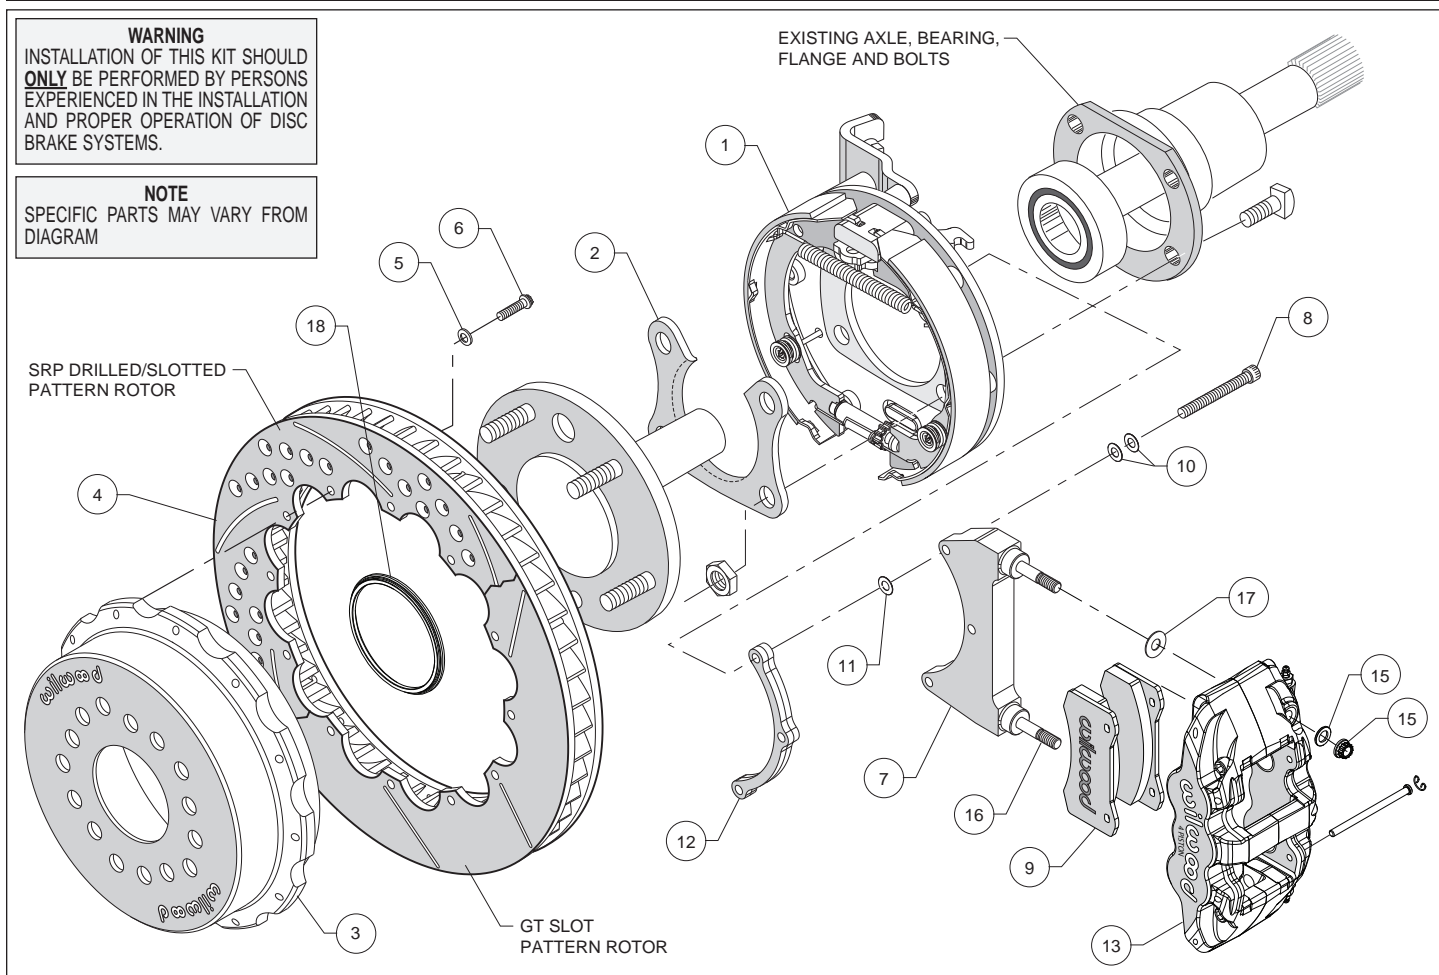

Figure 1. Typical Installation Configuration
- Orient the bracket assembly (1) as shown in Figure 1 and slide it onto the axle. Insert the axle and bracket into the axle housing. Ensure that the bracket assembly backing plate fits flush against the axle housing flange.
- Install the bearing retainer (2) with the opening pointing upward and the lip facing inward (toward the bearing), as shown in Figures 1 and 4. Secure retainer and bracket assembly to the axle housing flange using the Original Equipment Manufacturer (OEM) bolts and nuts, Figure 1. Apply red *Loctite*® 271 to the OEM bolt threads and torque to OEM specifications.
- Slide the rotor registration adapter (18) onto the axle register on the axle flange with the smaller O.D. facing toward the rotor/hat (3). Align the correct hole pattern in the hat with the stud pattern on the axle flange. **NOTE:** Some OEM and aftermarket axles come with stud sizes larger than 0.50" diameter. Verify stud size and have a qualified machine shop drill the hats to the correct size, if necessary. Slide the hat/rotor assembly (3 and 4) over the wheel studs covering the bracket kit assembly (1) and against the axle flange face. Check to be sure the hat seats squarely against the hub. Install three lug nuts (finger tighten) to keep the rotor/hat assembly in place while continuing with the installation.
- **NOTE:** Please reference the caution statement at the beginning of the assembly instructions. The caliper mounting bracket assembly (7) should be installed first with clean, dry threads on the mounting bolts (8). Install the bracket from the rear side of the bracket kit assembly (1) by sliding bolt (8) through two flat washers (10), bracket (7), shim washer (11) and finally through the spacer (12), see Figure 1. **NOTE:** End of bolt should not exceed inside face of insert. The bracket must tighten squarely against the back side of the bracket kit assembly (1). Inspect for interference from casting irregularities, machining ridges, burrs, etc. Use one thin shim (11) between the bracket (7) and spacer (12) during initial trial fitting.
- Lubricate caliper mounting studs and nuts with lightweight oil. Install one washer (17) over each pre-installed stud (16) on the radial mount bracket (7). Slide the caliper (13) in place over the studs and rotor, then install the washer (15) and lock nut (14) to hold the caliper in place. The caliper bleed screws should be pointing up. Snug the lock nuts (14) and check that the rotor (4) is centered in the caliper (13). Add or subtract .015" shims (11) as necessary between the caliper mounting bracket (7) and the spacer (12) to center the caliper (13).
- Remove the two pad retaining pins from the caliper (13) by carefully popping out the pin retaining clips and sliding out the pins. Insert the brake pads (9) into the caliper from the bottom, Figure 1. With the friction material facing the rotor, secure the brake pads in place with the pad retaining pins and clips. Reinstall the caliper onto the caliper mounting bracket and temporarily tighten the lock nuts. Check that the top of the brake pad is flush with the outside diameter of the rotor. If not, adjust by adding or subtracting shims (17) between the caliper and the bracket.
- Adjust the parking brake shoes outward (using a drum shoe adjustment tool available at your local auto parts store) while spinning the hat (3) until a slight drag is felt against the hat/drum. Remove the lug nuts that were holding the hat/rotor in place. Install the wheel and lug nuts. Check to see that the wheel rotates freely without interference.
- Once all clearances have been checked, remove the wheel, caliper, hat/rotor from the bracket kit assembly (1). Secure the caliper mounting bracket (7) to the bracket kit assembly (1) using red *Loctite*® 271. Torque bolts (8) to 180 in-lb. Reinstall the hat/rotor assembly and again use lug nuts to hold it in place. Reinstall the caliper, torque the caliper nuts (14) to 47 ft-lb.
- **NOTE:** Clevis and cable kits which attach to the parking brake assembly are not included in the Wilwood parking brake kit. Wilwood offers a generic style parking brake cable kit, P/N 330-9371 for this application which can be ordered separately from your local Wilwood dealer or by calling Wilwood customer service at (805) 388-1188.